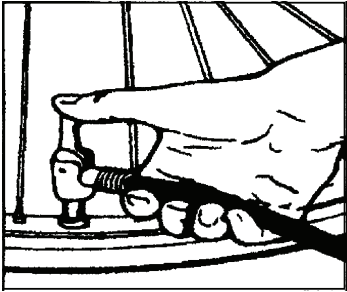

Figure 2
1. With thumb latch Quick Connector open, place securely onto tire valve stem (Fig. 2).